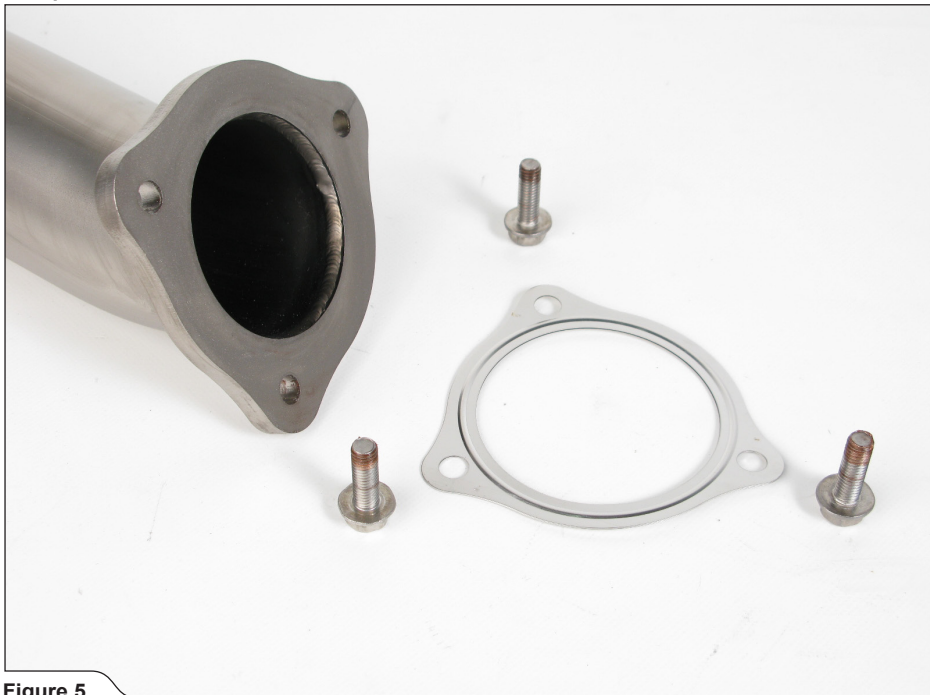

Figure 5
6. **For Optional Front Link Pipe Set only:** hand tighten the Akrapovič front link pipes onto the stock down pipes, using Akrapovič M8x25mm bolts, stock nuts and stock gaskets (**Figure 5, 6**).